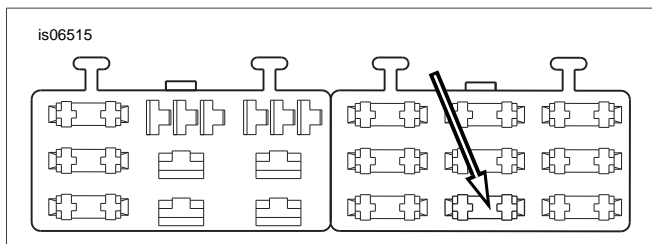

Figure 18. "OPEN" Fuse Block Cavity (2004 and Later Dyna)
4. See Figure 18. Locate the fuse cavity (1) indicated as "OPEN" on the fuse block cover in the right fuse block.